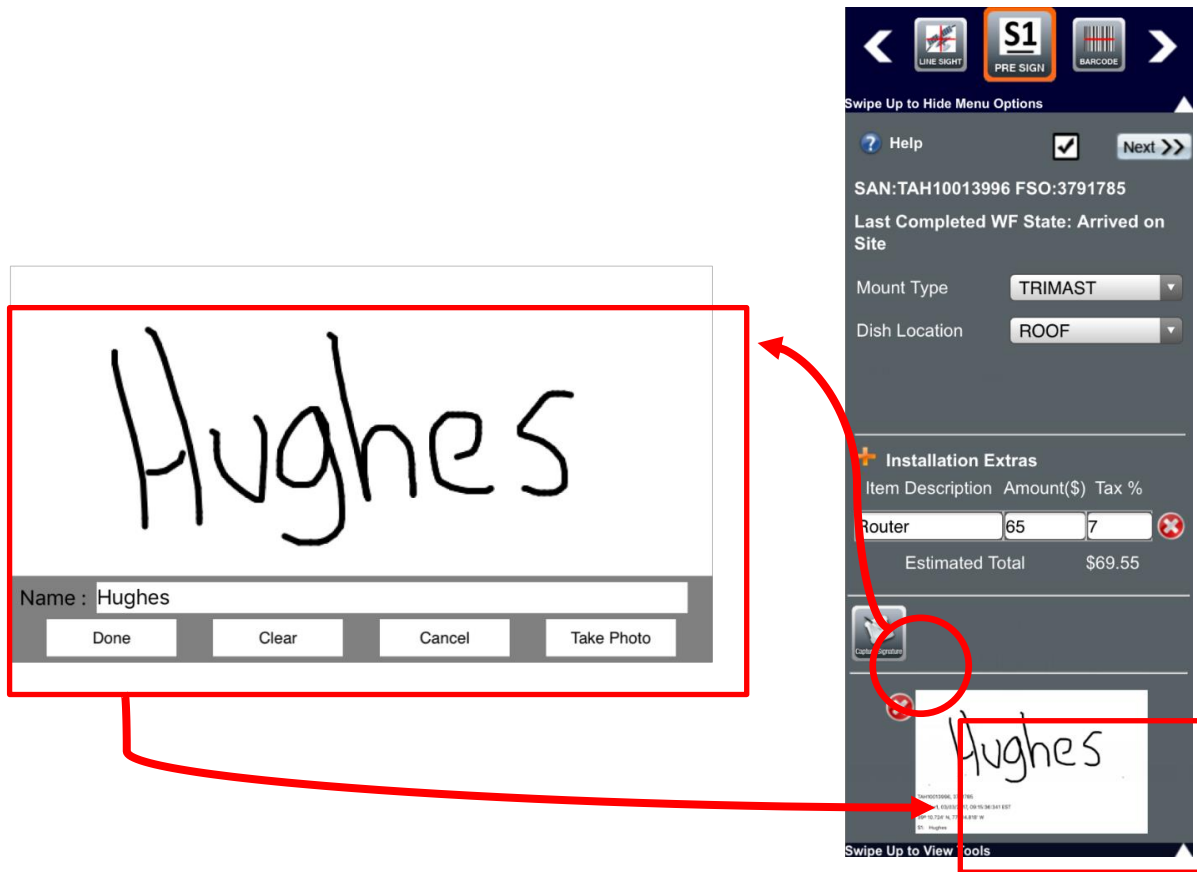

Figure 21: Pre Sign step – customer signature
5. Tap the Customer Signature icon (circled in Figure 21).
6. In the signature screen that displays, the customer must sign their name on the screen and also type their name in the *Name* field, as shown in Figure 21. This signifies their approval of the antenna location, mount type, and extra charges.
7. Tap **Done**. OASIS navigates back to the Pre Sign step, where the customer's signature now appears (Figure 21). The signature is saved as an attachment on the FSO.